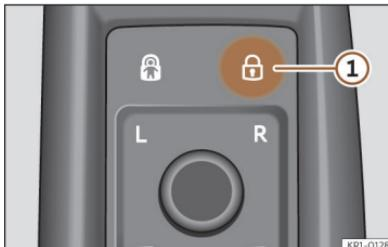

Fig. 71 On the driver's door: central locking button.
- Lock: press the  button >>> Fig. 71.
- Unlock: Press the  button >>> Fig. 71 again.